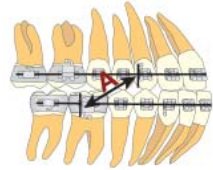

Figure 2.
- b. Measure from the distal edge of the upper cuspid bracket to the distal end of the lower 1st molar lip bumper tube (Figure 2).
- c. See the chart below for measurement ranges (A) and part numbers.